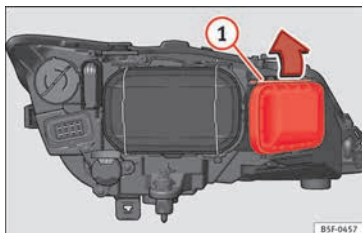

Fig. 108 Main beam headlight bulb.
- Move the loop » **Fig. 108** ① in the direction of the arrow and remove the cover.